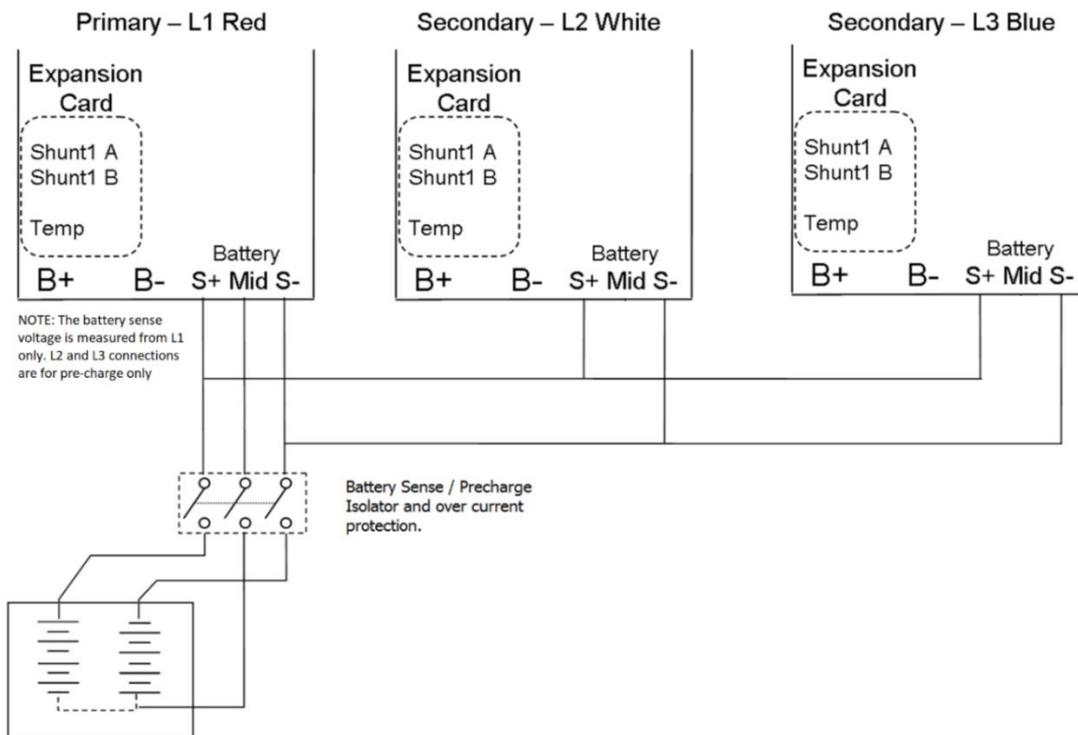

Figure 3: SP PRO Three Phase DC pre-charge and midpoint wiring layout
The SP PRO Three Phase DC pre-charge and midpoint wiring layout is shown in Figure 3.
- Turn on the Battery Sense / Pre-charge isolator (See Fig 3). Wait until the SP PRO comes on.